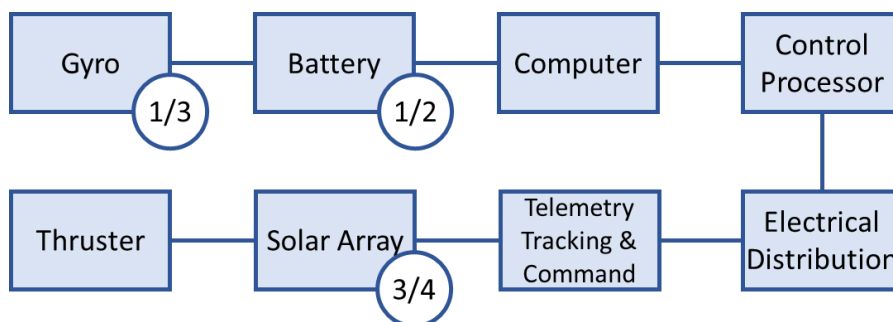

Figure 2 – Satellite system RBD
Figure 2 presents the RBD of one of the satellites in the above communications network. Each component is assumed to be modelled as a 2-parameter Weibull distribution with the parameters for each sub-system presented in Table 1. The numbers in Figure 2 indicate any requirements for m/n redundancy, the solar array for example requires at least three of the four independent arrays installed on the satellite to be operational. For sub-systems with no m/n indicated it is assumed that only one of these sub-systems is present e.g. there is only one computer. Assume all PDFs are a function of time in years.
- (b) Use the RBD presented in Figure 2 and the PDF parameters in Table 1 to calculate the reliability (to 4 d.p.) of a single satellite after 20 years. **(5 marks)**
- (d) Employ a Monte Carlo simulation with 500 iterations to calculate the probability that at 20 years it will still be possible to transmit a signal from G1 to G2. Assume that the ground stations have perfect reliability and that the ability of a single satellite to receive/transmit data is captured by the RBD in Figure 2. **(10 marks)**